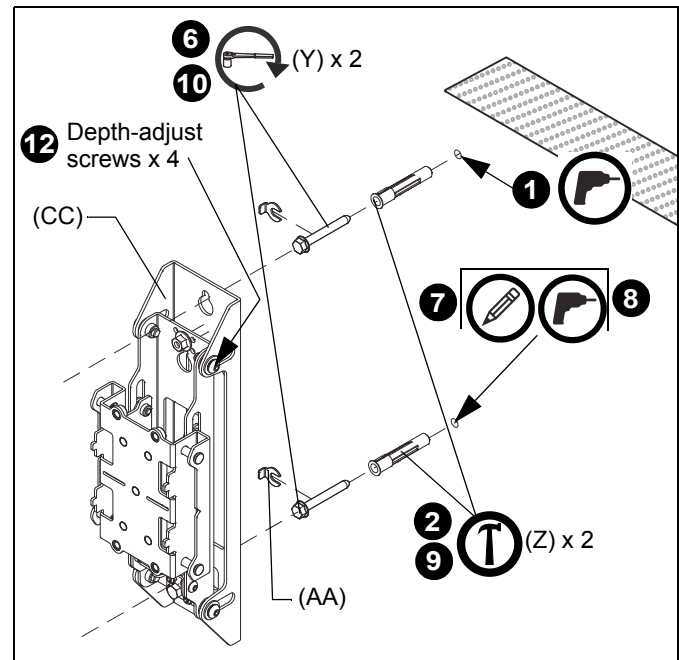

Figure 9
1. Drill one 3/8" x 3-1/2" (9.5mm x 88.9mm) pilot hole at mark for upper mounting slot. (See Figure 9)
2. Install one anchor (Z) into pilot hole using a hammer, making sure that the anchor is flush with the wall.
3. Partially install one 5/16 x 2-3/4" flanged lag bolt (Y) into pilot hole but do not tighten to wall.
4. Hang outside wall upright (CC), aligning upper mounting slot over lag bolt and level upright.
5. Place one slotted washer (AA) over each flanged lag bolt. (See Figure 9)
6. Tighten lag bolt to secure wall upright (CC) to wall at upper mounting slot.
7. Mark the attachment point for the lower mounting slot. (See Figure 9)
8. Drill 3/8" x 3-1/2" (9.5mm x 88.9mm) pilot holes at marking for lower mounting hole. (See Figure 9)
9. Install an anchor (Z) into lower pilot hole using a hammer, making sure that the anchor is flush with the wall.
10. Use one 5/16 x 2-3/4" flanged lag bolt (Y) and one 5/16" slotted washer (AA) to attach the wall upright to the wall through the lower mounting hole. (See Figure 9)
12. Adjust depth of wall uprights, if necessary, so that the face of the wall uprights are all in the same plane across the width of wall upright installation: (See Figure 9)